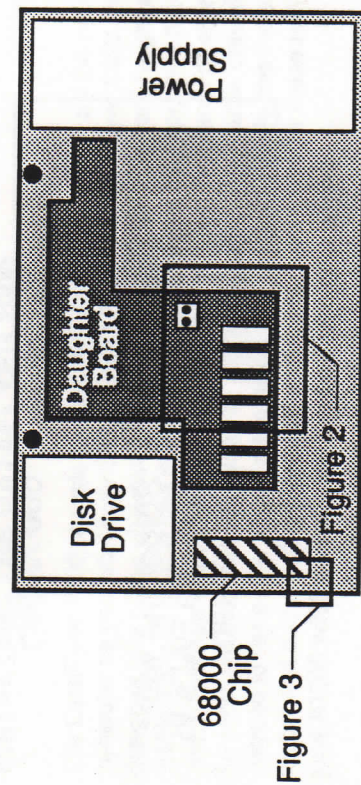

Figure 1
It was discovered that four of the PALs on the daughter card on the inside of the Amiga were suffering from noise. It seems that they were not connected to the ground plain on the card and this connection needs to be improved. The PALs in question can be found by removing the cover and shield from the computer and locating the daughter board. Looking from the REAR of the computer with the top off locate the daughter board. It will be upside down or with the solder side of the board facing up. A silk screened legend on the surface of the board will tell you where the PALs are located. See Figure 1. The four chips that need to be grounded are the DPALEN (J), DRUGEN (K), DPALCAS (L) and DRUGCAS (N). Some opinions have offered that the ground wire should be connected to a capacitor also shown in Figure 1. It is located in a white square and has a white + (plus) sign.
On the daughter board (see GROUNDING section Figure 1) locate the J and K PALs. Using a mirror and a light source check the writing on the surface of the